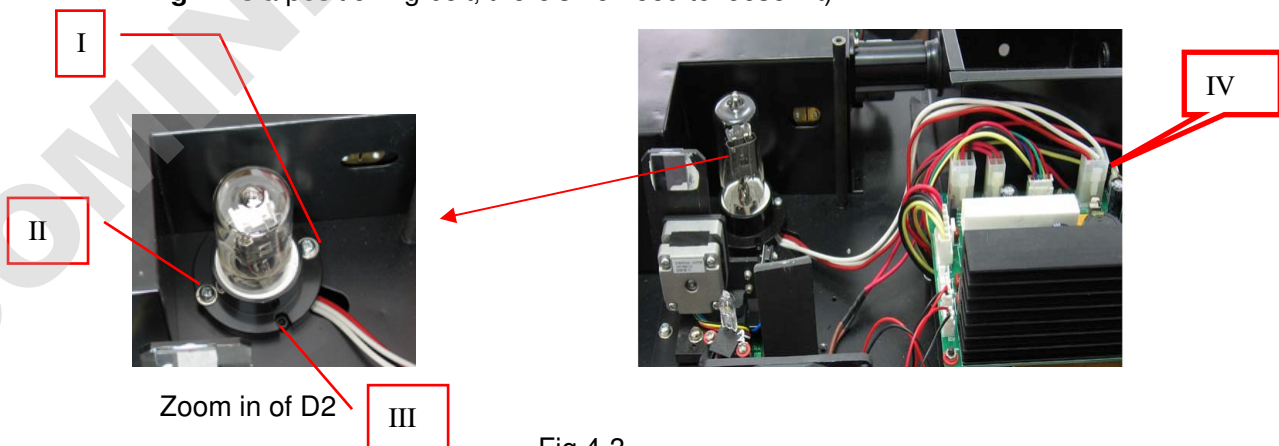

Fig.4-3
- 6) Disconnecting the 3-wire connector by pulling it straight up. Remember the direction of the white connector. (**Figure. IV** in the following Fig.4-3))